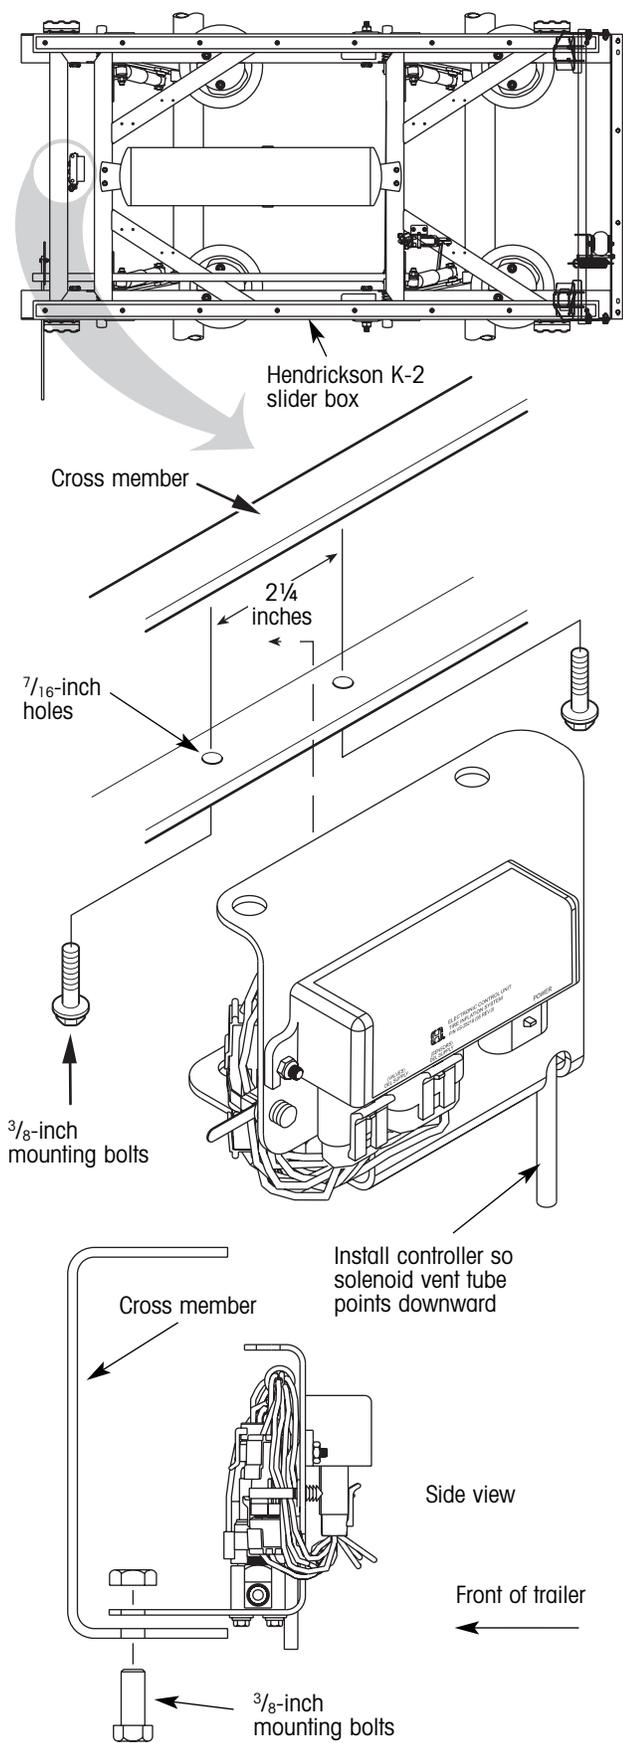

Figure 16. Controller assembly installation
On Hendrickson K-2® slider box suspensions, mounting holes for the controller assembly are provided on the forward cross member (figure 16). On other suspensions without mounting holes, a location must be selected and holes drilled to mount the controller assembly.
2. Drill two holes on 2 1/4-inch centers to accommodate the mounting bracket. Attach the controller assembly with two 3/8-inch fasteners (figure 16). Orient the controller so that it is protected within the cross member and the ECU points rearward (figure 16).
⚠ CAUTION: The controller assembly must be mounted vertically with the solenoid vent tube pointing down (figure 16). This properly orients the exhaust port to prevent damage.